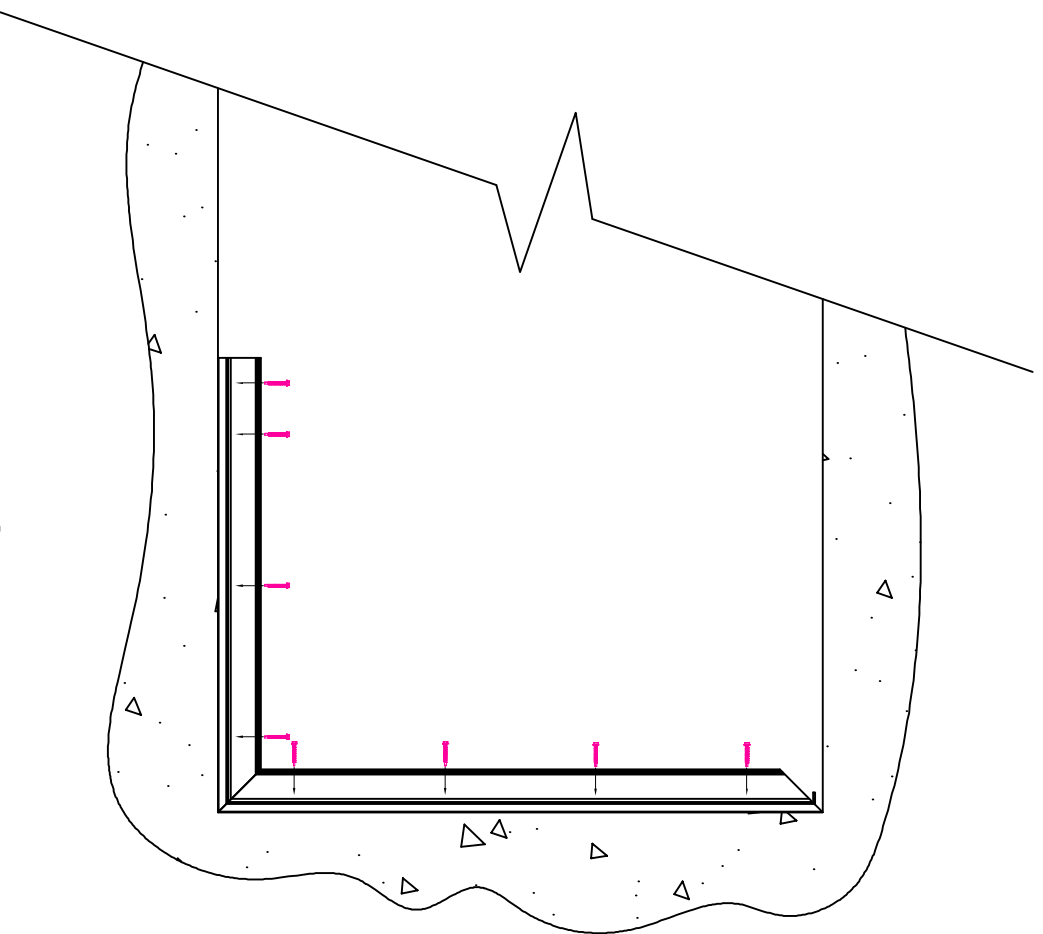

Fig 3
- 2.) Starting from one side or the other insert the starter sill and jamb corner section into the opening. See Fig 3. Make sure that the sill and jamb are aligned with the chalk line marks.